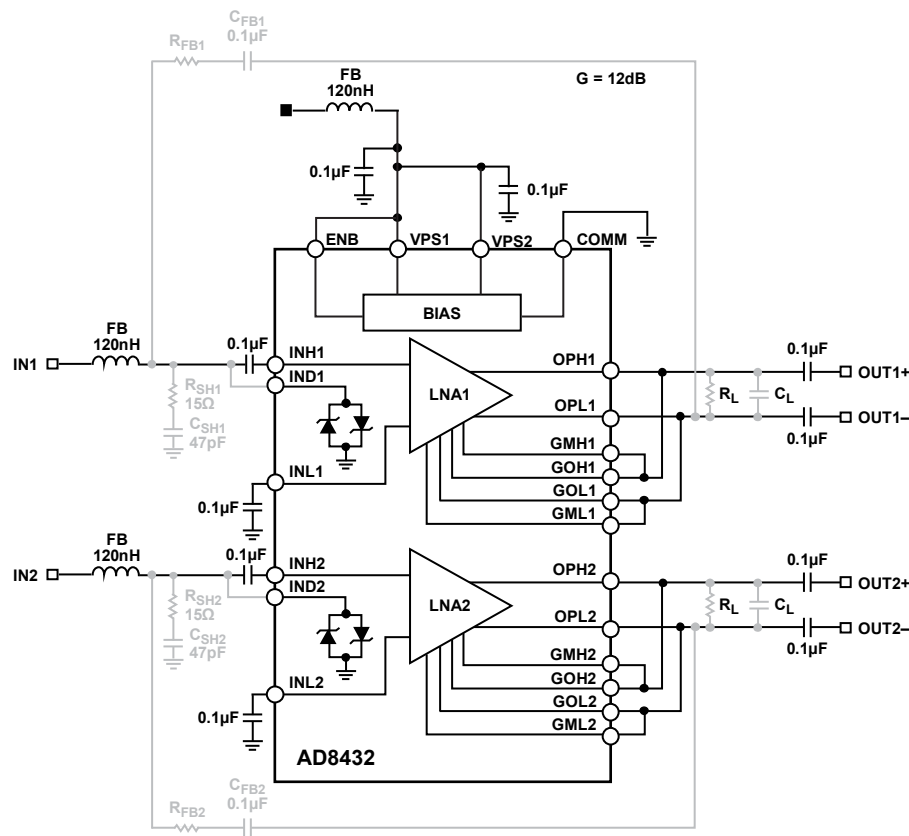

Figure 69. Typical AD8432 Setup,  $G = 12.04 \text{ dB}$
At the lowest gain (12.04 dB), the gain response exhibits some peaking at higher frequencies. A resistor-capacitor shunt network (RC) at the input (see  $R_{SHx}$  and  $C_{SHx}$  in Figure 69) is recommended to reduce gain peaking and enhance stability at higher frequencies.